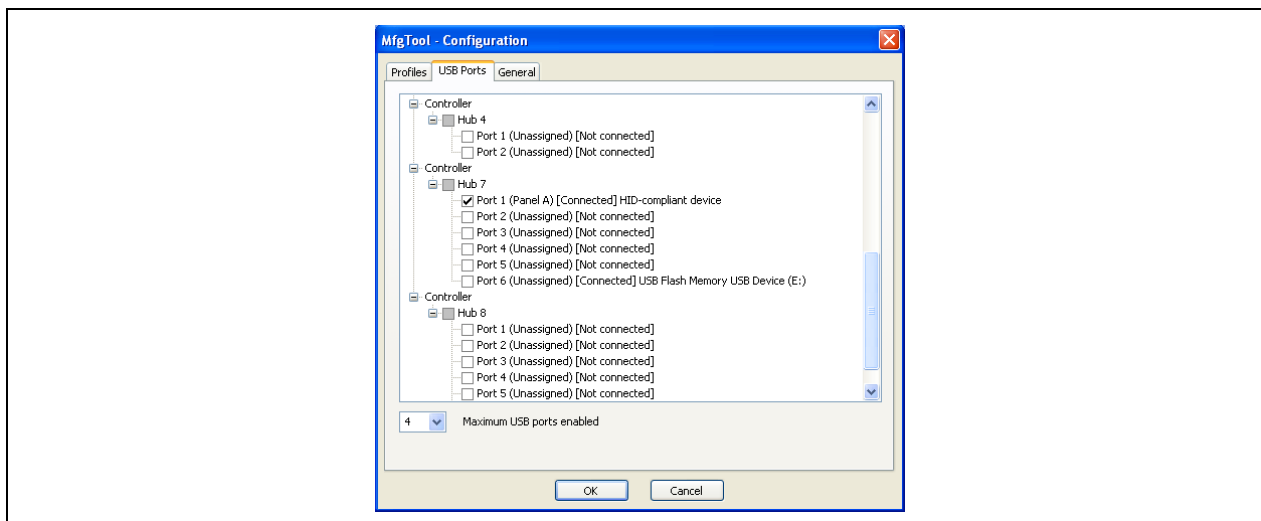

Figure 37 MfgTool USB Ports Dialog
- Select the 'USB Ports' tab and select a Hub and Port to use as shown in Figure 37. Refer to paragraph 9.4.1 for detailed instructions on how to set up the USB ports.
- 3 Select a Port number as shown in Figure 37.
Select the physical ports that are to be used during the manufacturing process. When a port is selected, the name of the associated (assigned) Panel will appear next to the port node. The operation panels (A, B, C, and D) in the main application window correspond to the four physically assigned ports shown in Figure 37.